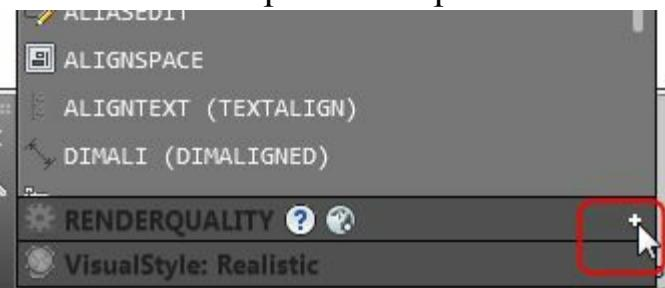
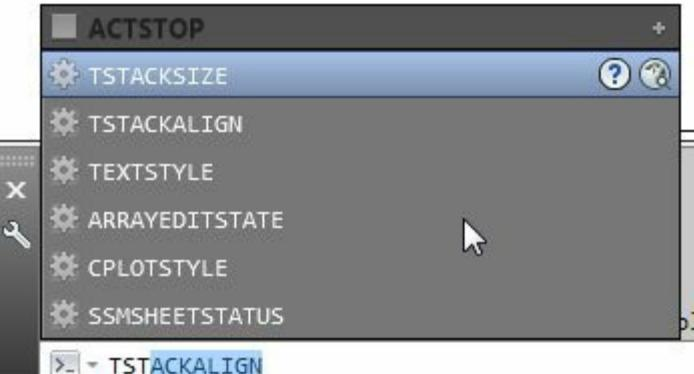

Figure-47. Variables
Figure-48. List of variables
- Click on the + sign next to the variables tile in the box; refer to Figure-47. The list of variables related to the specified alphabets will be displayed; refer to Figure-48.